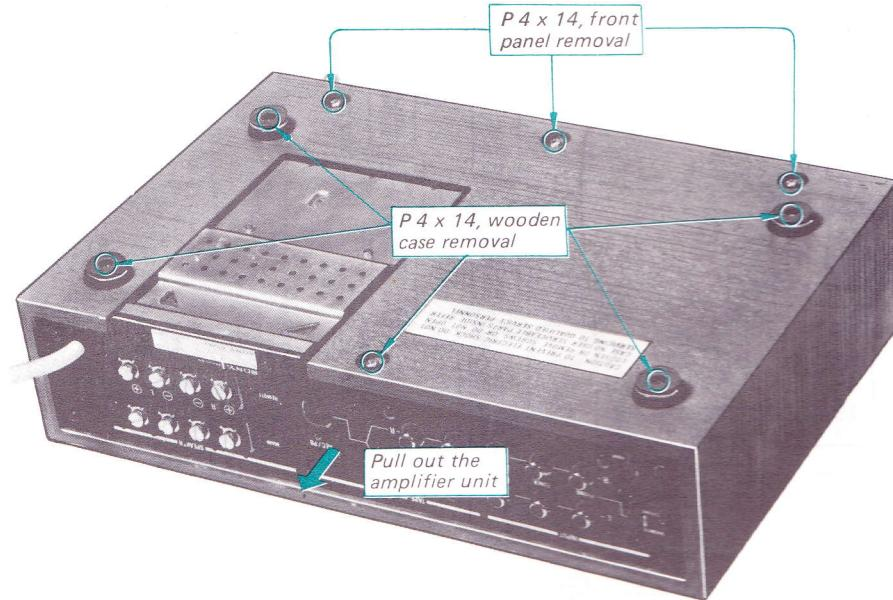

Fig. 2-1. Front panel and wooden case removal
2. Remove the three screws at the front bottom of the wooden case shown in Fig. 2-1.